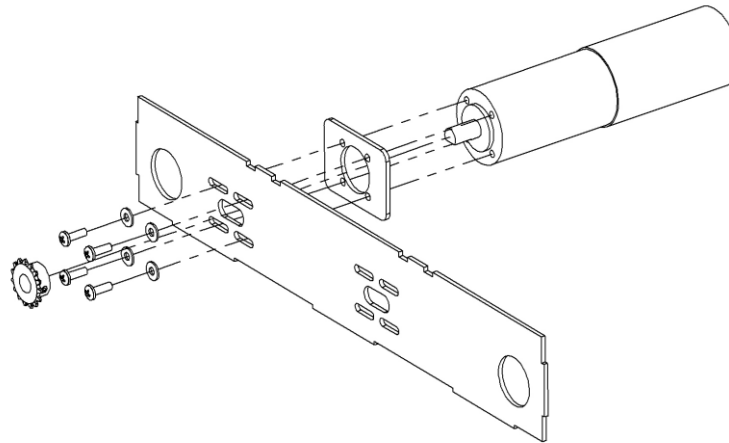

Figure 2: Exploded view sketch of motor mounting
1. Mount the motors as shown in Figure 2, with the motor spacer plate between the motor and the chassis. Make sure to use Loctite on the screws. Once the motor is mounted, the small sprockets can be mounted on the motor shaft. The hub should face the motor and they should be pushed all the way against the inside plate with just a small clearance for rotation.